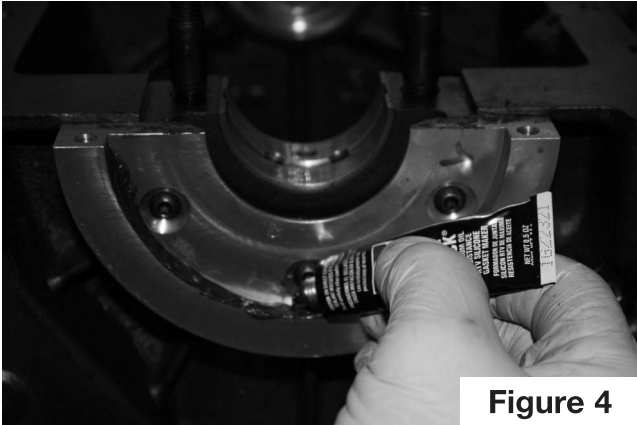

Figure 4
- 4) Apply a thin bead of Permatex Ultra Black sealer in the annular grooves in the seal housing half on the rear main cap and a very thin smear of sealer on the mating faces where the two halves of the seal housing bolt together. (Figure 4)